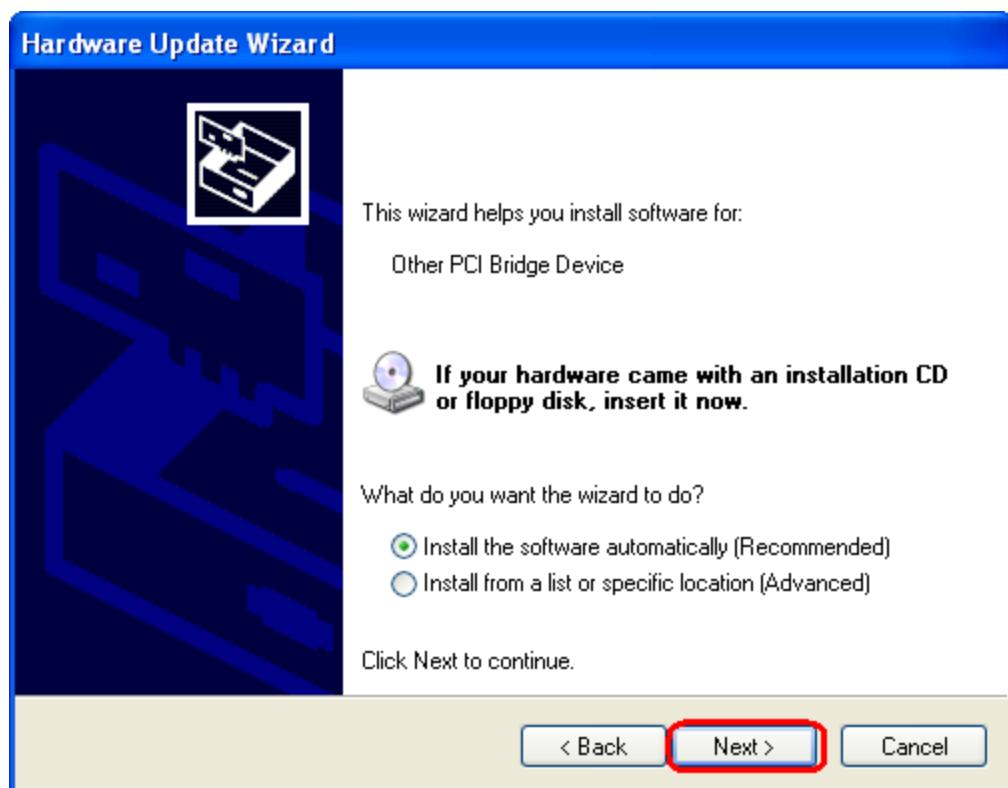

Figure 7-45: Other PCI Bridge Device Controller Driver Installation Start
Step 81: The screen in **Figure 7-45** appears.
Step 82: Select the recommended option in **Figure 7-45**.